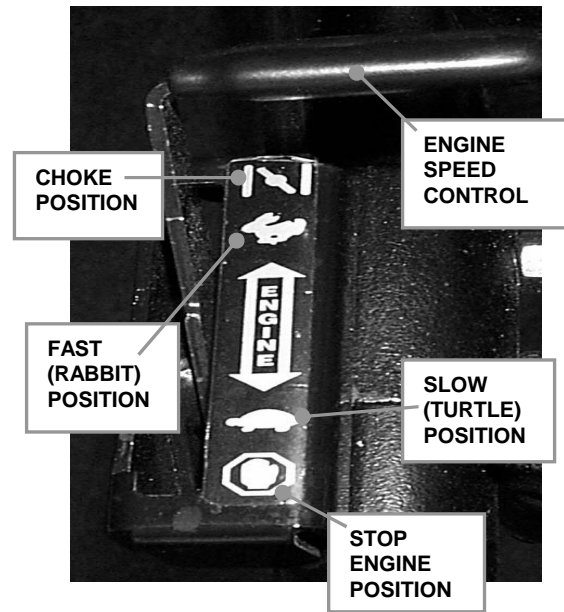

FIGURE 2.3
2. Move engine speed control to the "choke" position. See Figure 2.3. Refer to Familiarization Page.
5. After engine starts, move engine speed control away from the choke position to the "Fast" (Rabbit) position. See Figure 2.3. Refer to Familiarization Page.